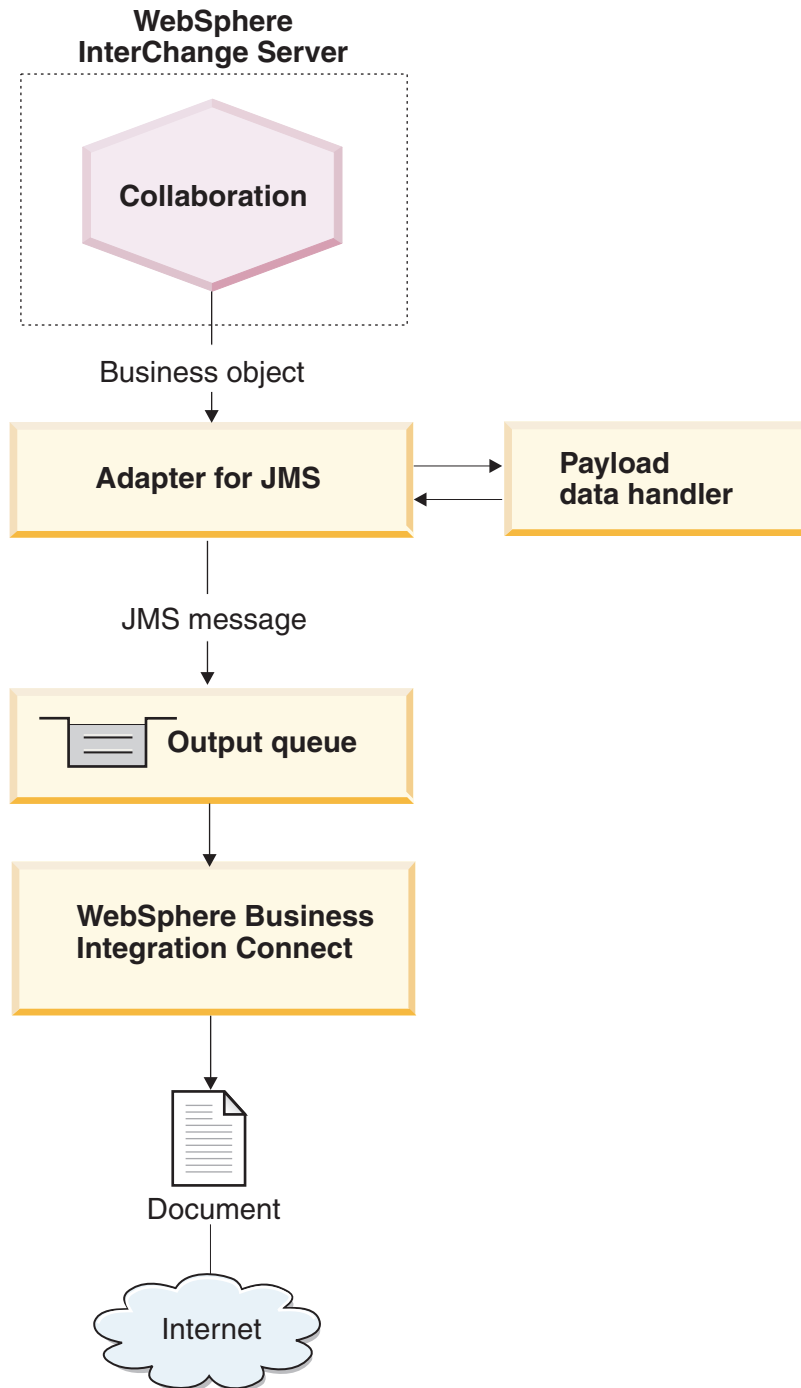

Figure 21. Message flow from a collaboration to Business Integration Connect through the JMS transport protocol
For Business Integration Connect to receive a document from InterChange Server using the JMS transport protocol, you use the Adapter for JMS, which places the message it receives from InterChange Server on a JMS queue for Business Integration Connect to retrieve. Figure 21 provides an overview of how Business Integration Connect receives documents from InterChange Server over the JMS transport protocol.
- For request processing, it receives the request business object from InterChange Server, converts it to a JMS message (using a data handler), and puts the JMS message on a JMS queue (see Figure 21 on page 117), where it can be picked up by Business Integration Connect.
As Figure 21 on page 117 shows, the Adapter for JMS uses a data handler to convert the business objects it receives from InterChange Server into the appropriate JMS messages.